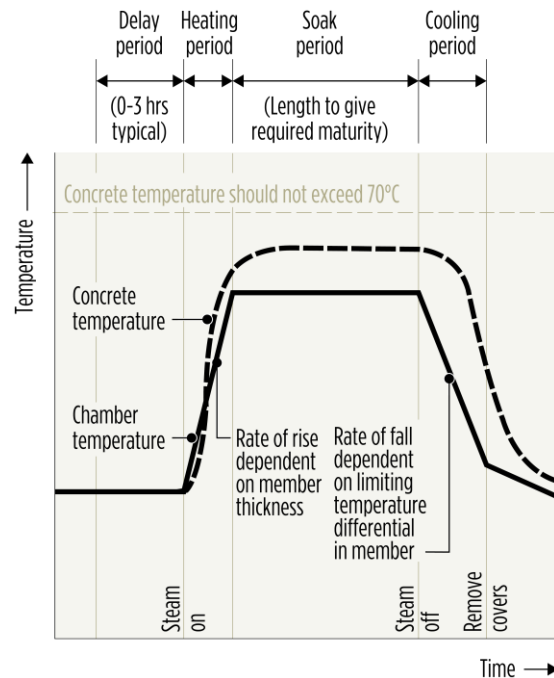

Figure 15.10 – Temperature/time Profile for a Typical Steam-curing Cycle and Concrete using GP or HE Cement
**Steam Curing** – Low pressure steam curing involves the application of saturated steam to concrete in suitable chambers or under removable covers. It is used to heat the concrete and to accelerate the rate of strength gain and is widely used in the precast concrete industry. Its cost is justified by the more-rapid turnaround of formwork and the resulting greater productivity. Strict control of the steaming cycle is critical (**Figure 15.10**). A detailed discussion of the steam-curing process can be obtained from suitable references, e.g. the Concrete Institute of Australia's Recommended Practice [1].
It should be noted that the maximum steam curing temperature allowed (see **Figure 15.10**) will vary with mix cement type. The maximum temperature of 70°C may apply to concrete with a binder containing type GP or HE cement but may be increased where some blended cements are used. The reason for this limit is to reduce the risk of 'Delayed Ettringite Formation' in the concrete.